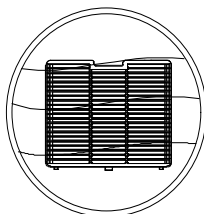

Fig.2
2. Gently clean the filter with a vacuum cleaner to remove dust. If necessary, wash the filter with warm soapy water **DO NOT USE ALCOHOL, BENZENE OR OTHER AGGRESSIVE PRODUCTS** (Fig.2). Leave the filter to dry naturally, then insert it back into its housing (Fig.3). Do not use hair dryer or fire to dry the filter.